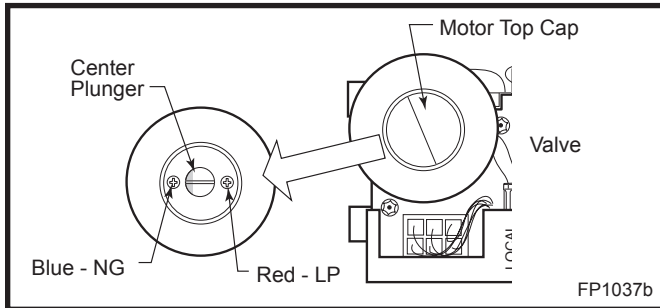

Fig. 66 Depress and turn center plunger.
- Remove motor top cap using a standard slotted screwdriver. Depress and turn center plunger until arrow points to correct screw. Red for LP and Blue for NG. **NOTE:** Plunger will “snap” into NG position when arrow is close to blue screw. It will not “snap” at LP (Red) position. (Fig. 66)